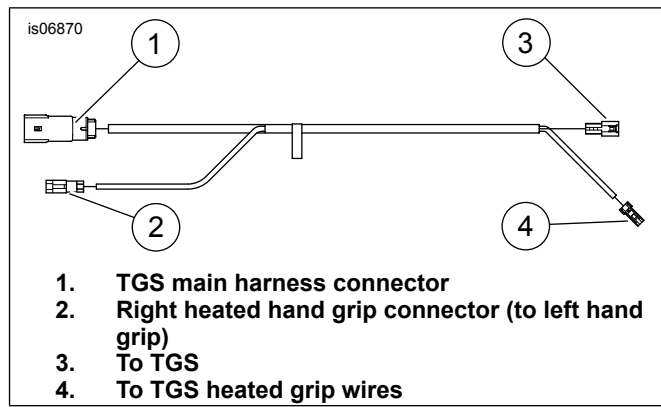

Figure 4. TGS Jumper Harness
4. See Figure 4. Attach **new** TGS jumper harness to TGS.
- a. Connect connector (3) to TGS harness.
- b. Connect connector (4) to heated grip connector.